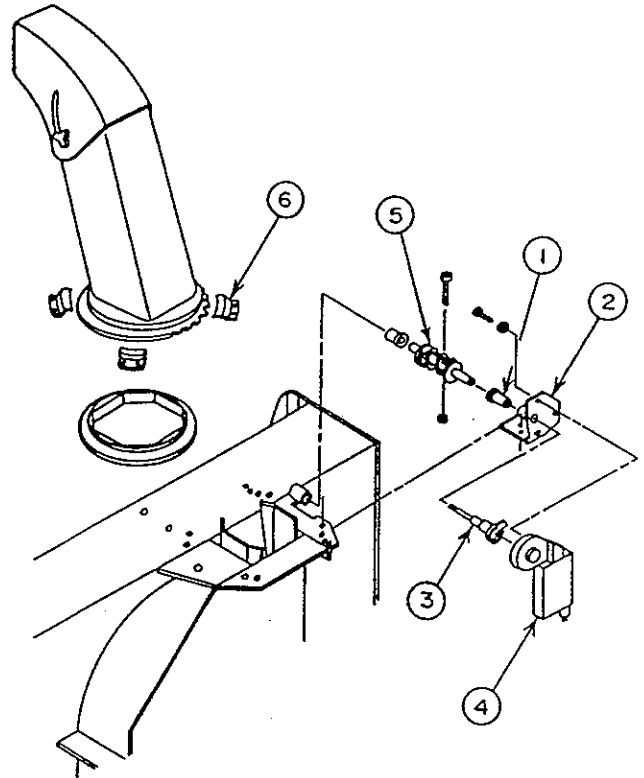

FIGURE 8
- a) Insert the 1 11/16" plastic bushing (fig.8, item 1) in the rotation bracket (fig.8, item 2).
- b) Install the adaptor (fig.8, item 3) on the motor shaft and attach motor (fig.8, item 4) to rotation bracket using three 1/4" x 3/4" bolts, lockwashers and flatwashers. Tighten.
- c) Insert longest tube end of rotation worm (fig.8, item 5) over adaptor and into plastic bushing in rotation bracket. Align holes and secure with a 10-24 x 1" capscrew and a nylon lock nut. Tighten securely.
- d) Install the chute over the plastic insert and place the four retaining plates (fig.8, item 6). Secure using eight 1/4" x 3/4" bolts, lockwashers and nuts, attaching rotation bracket assembly on the underside of chute base lip. Torque to 9-11 lbs.ft.